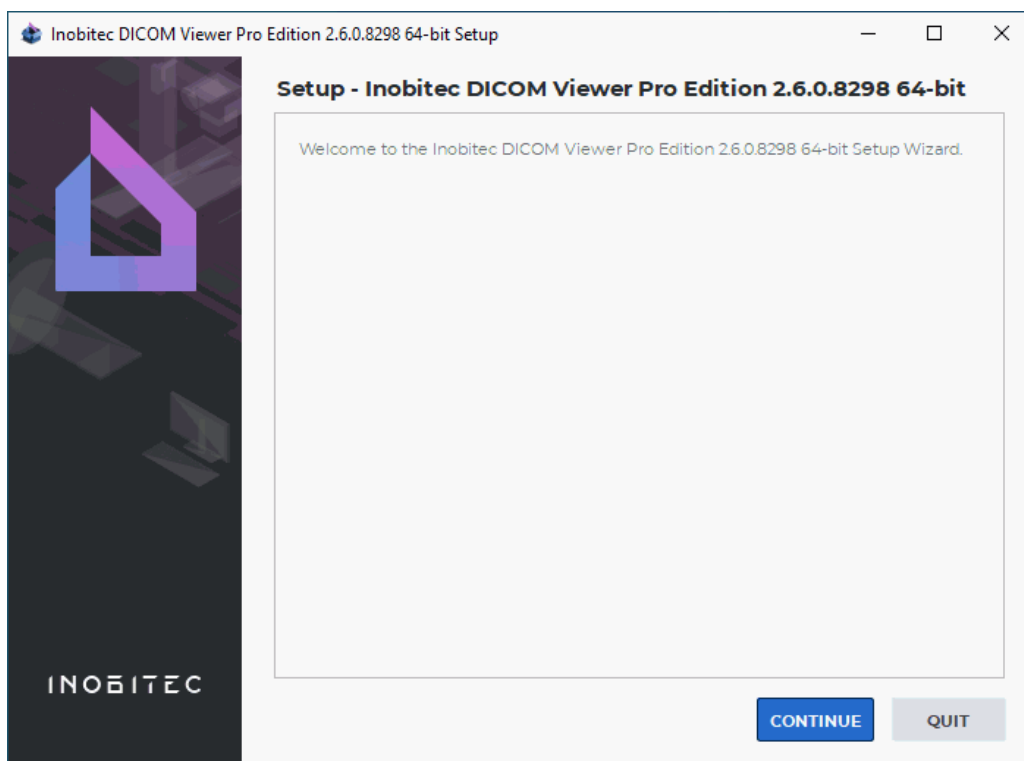

Figure 1: Beginning of the installation
2. Click **CONTINUE** in the window shown in Fig. 1.